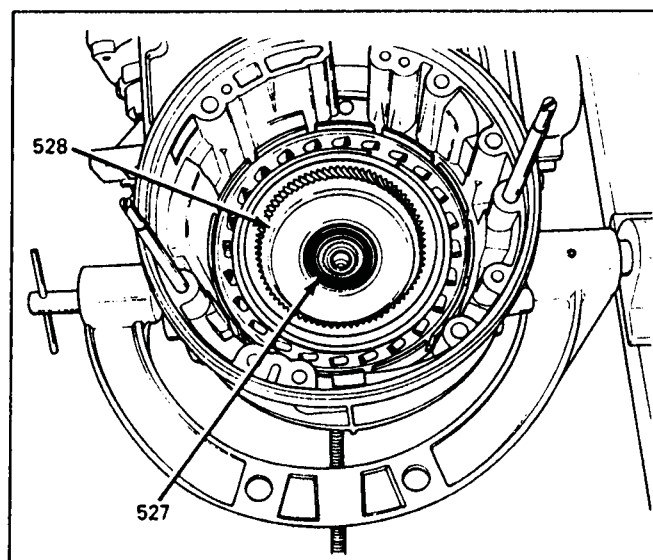

Figure 103
26. Install the overdrive internal ring gear on the intermediate shaft splines as shown in Figure 103.
27. Install ring gear thrust bearing into overdrive internal gear, with black side facing up (See Figure 103).